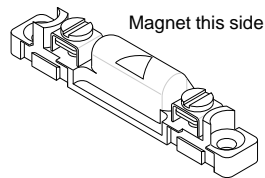

Figure 1
3. Align and mount the switch base and the magnet base with either the tape or screws provided. The arrow on the switch must point toward the magnet. See Figure 1.